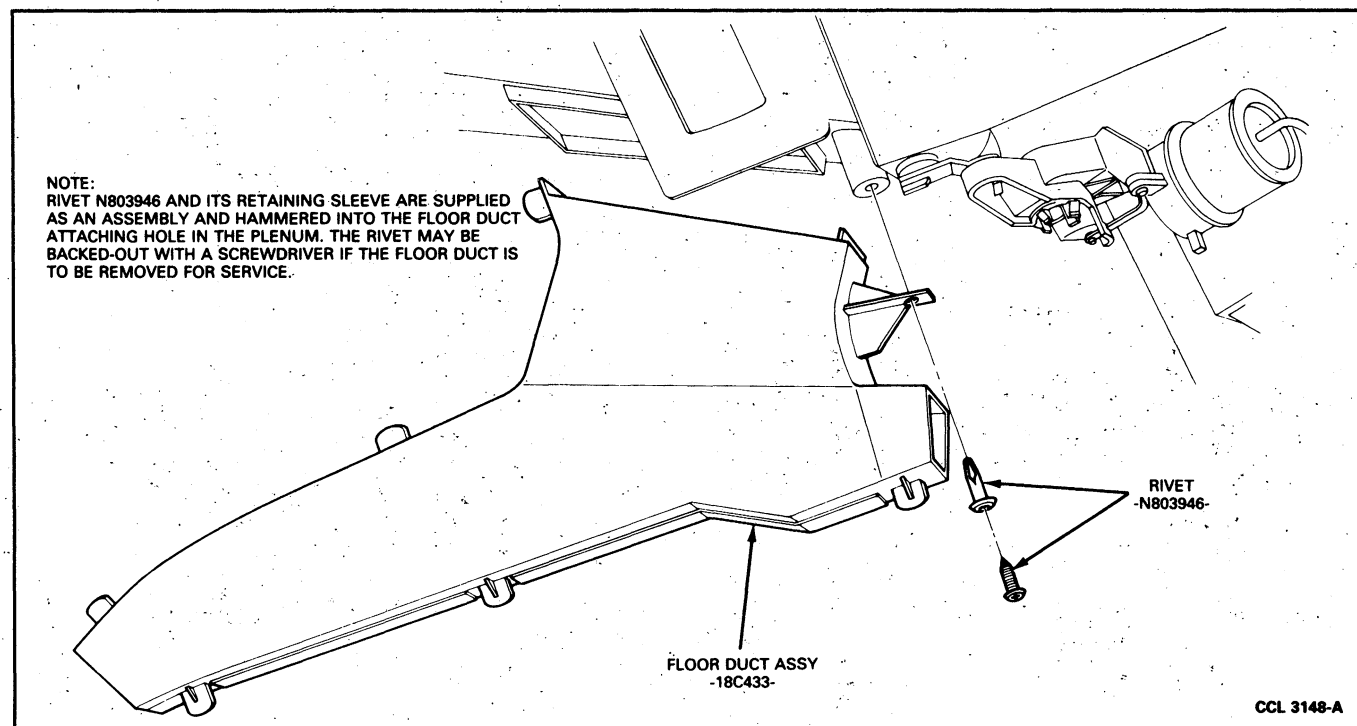

FIG. 34 Floor Duct
2. Install two screws along RH side of recirc duct (Fig. 34).